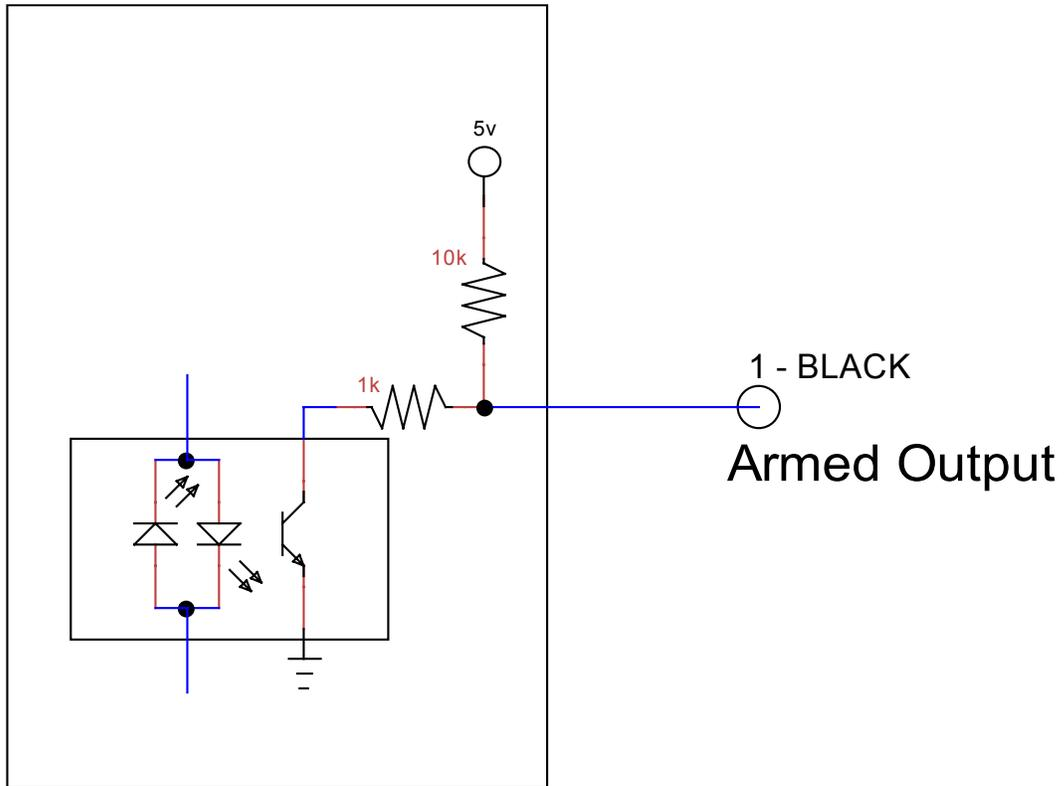

Figure B5. Armed output circuit
- See Appendix B for a schematic of the armed output circuit (Figure B5)
**Figure B5** shows the armed output circuitry that you can use to monitor the state of the RibEye.